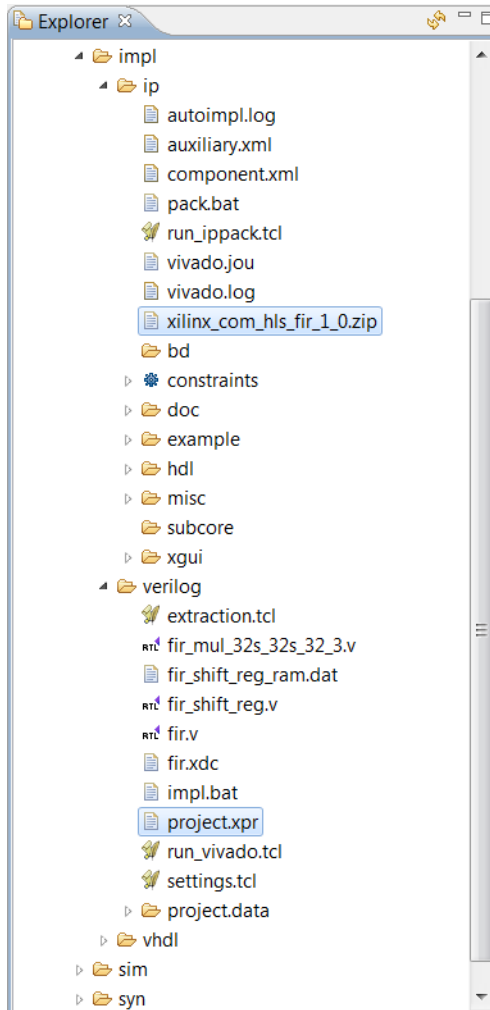

Figure 2-15: RTL Verification Results
6. Expand the `ip` folder and find the IP packaged as a zip file, ready for adding to the Vivado IP Catalog (Figure 2-15).
Note: In Figure 2-15, if you expand the Verilog or VHDL folders inside the `impl` folder, there is a Vivado project ready for opening in the Vivado Design Suite.